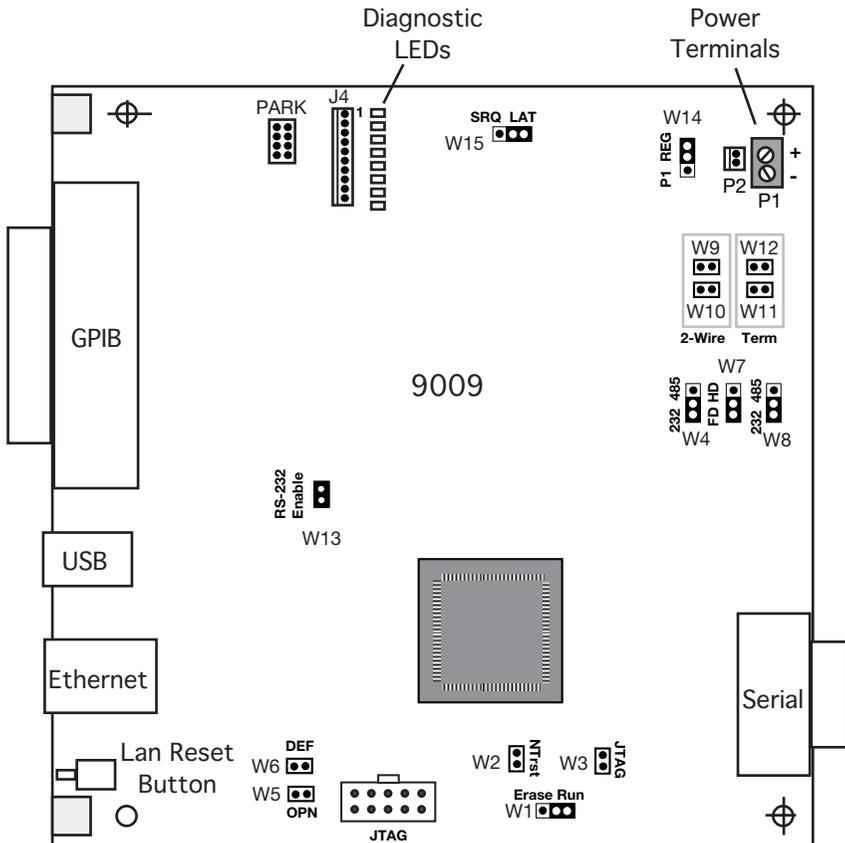

Figure 2-11 9009 Jumper Locations
The 9009 and 9099 have the same jumper designations and positions as shown in Table 2-3 and in Figures 2-11 and 2-12. The factory setting is for RS-232 operation. The SYST:COMM:SER:RS485 command is factory set to OFF (0).